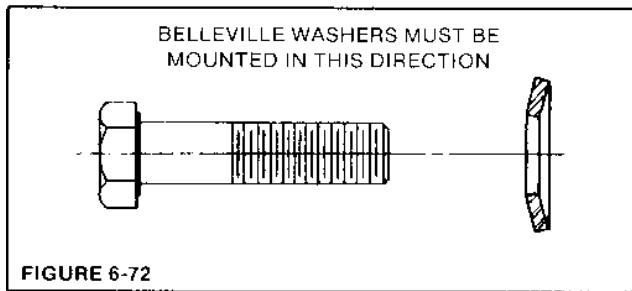
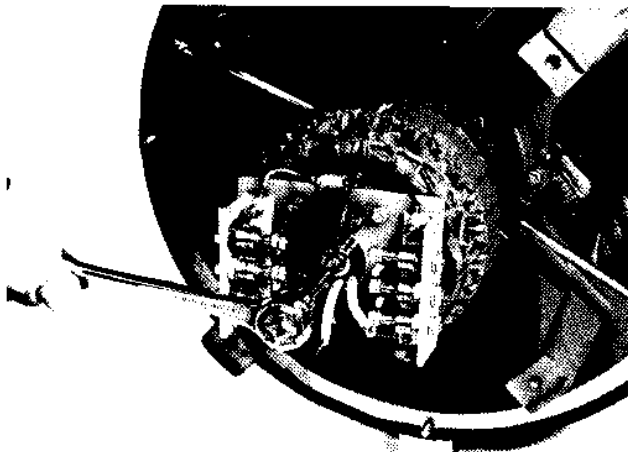
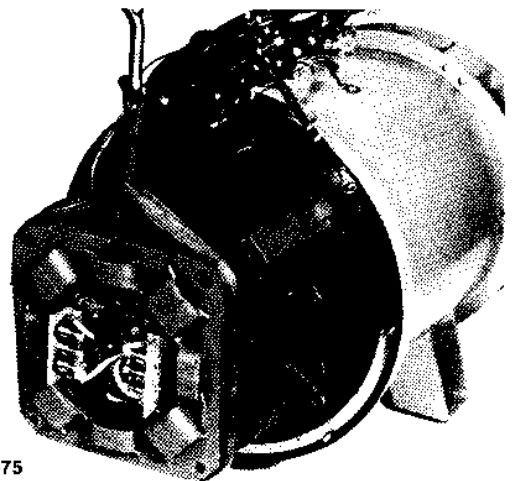

FIGURE 6-72
FIGURE 6-73
FIGURE 6-75
Insert the capscrew and belleville washer (Figure 6-72.) through the mounting hole in the aluminum standoff plate and secure to the shaft (Figure 6-73). Tighten the capscrew until the armature seats on the shaft. Torque to 84 lb-ft (114 N-m).
3. Position the exciter field leads at the left (9:00 o'clock) inboard position. Using a suitable lifting device, mount the exciter stator on the front end bracket mounting pads and align the mounting holes. (Figure 6-75.) Mount with the capscrews and belleville washers. (Figure 6-72.) Torque the capscrews to 60 ft-lb (81 N-m). Route and secure the exciter stator leads away from any moving parts.